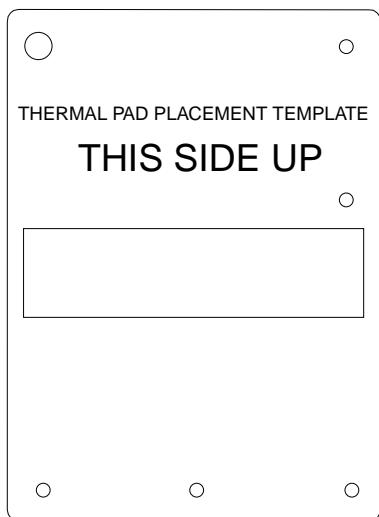

FIGURE 3 Sun Enterprise E10000 Thermal Pad Placement Template
- 1. Install the thermal pad placement template on the Sun Enterprise 10000 system board in place of the processor (FIGURE 3).**
- 3. Center the thermal pad in the opening of the template for a Sun Enterprise 10000 system board (FIGURE 3). Center and place each thermal pad directly on the exposed metal layer strip of the Sun Enterprise 6x00/5x00/4x00/3x00 CPU/memory board.**